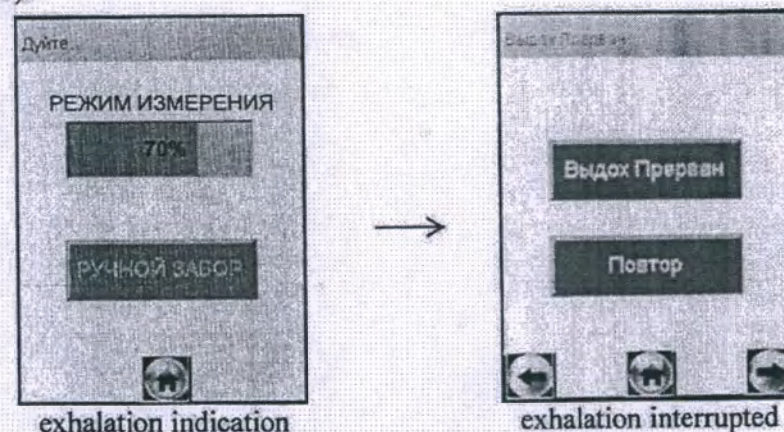
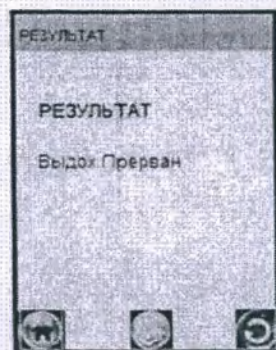

Figure 19 – Breathing test failure
Figure 20 – Result “Exhalation Interrupted”
2.8.22 If, when performing 2.8.13 of this OM, the exhaled air sample does not meet the required parameters for flow or volume (specified in 1.2.6 of this OM), i.e. in case of interruption of exhalation, the “ **Exhalation Interrupted** ” window will be displayed on the screen (Figure 19, right).
To do this, when the “**Exhalation Interrupted**” window is displayed on the screen (Figure 19, right), press the virtual button “**Exhalation Interrupted**” - a corresponding message will appear on the screen (Figure 20).